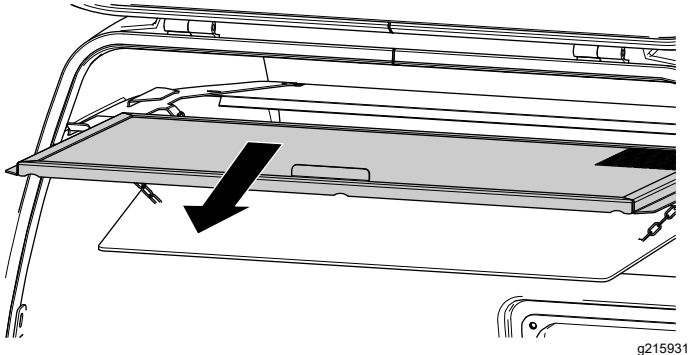

Figure 112
3. Remove the hopper screen and clean it (Figure 112).